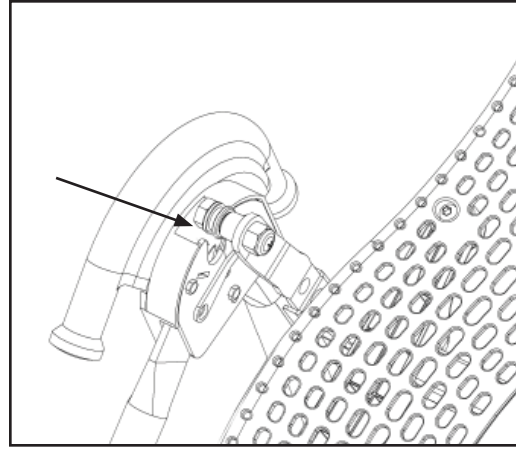
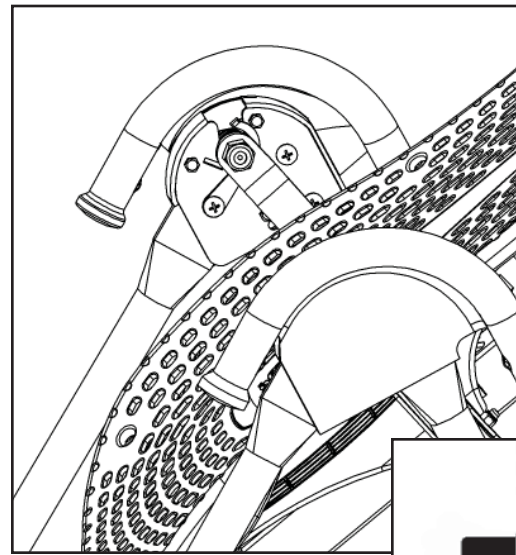

Figure 7
Figure 8
- Holding each side near the Roller Hinges, pick up the Table Bed and stand at the front of the A-frame where the Crossbar is located. Lower each Pivot Pin into the A-frame hinge plates one at a time (Figure 7). You may need to push outward on the A-frame in order to slide the second Pivot Pin into the hinge. Figure 8 shows the correct placement of the Pivot Pin into the hinge plate.